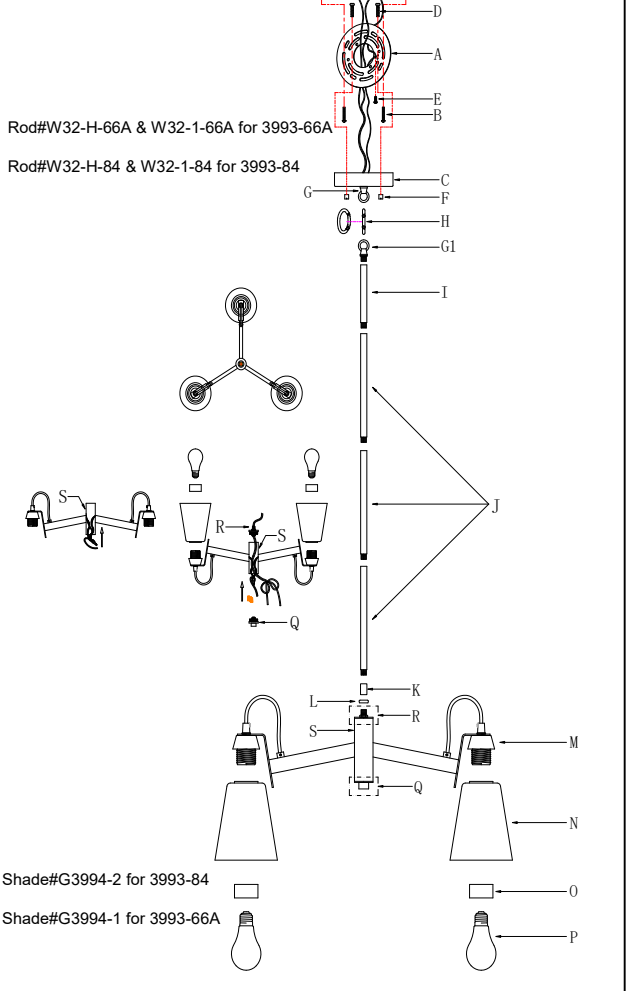

Fig. 2
CONNECTING THE WIRES (Fig. 2)
8. Connect electrical wires as shown in Fig.2, making sure that all wire connectors are secured. If your junction box has a ground wire (green or bare copper), connect the fixture's ground wire to it. Otherwise, connect the ground wire directly to the mounting plate (A) using the green screw (E) provided.